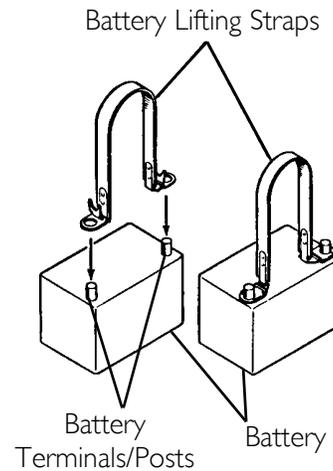
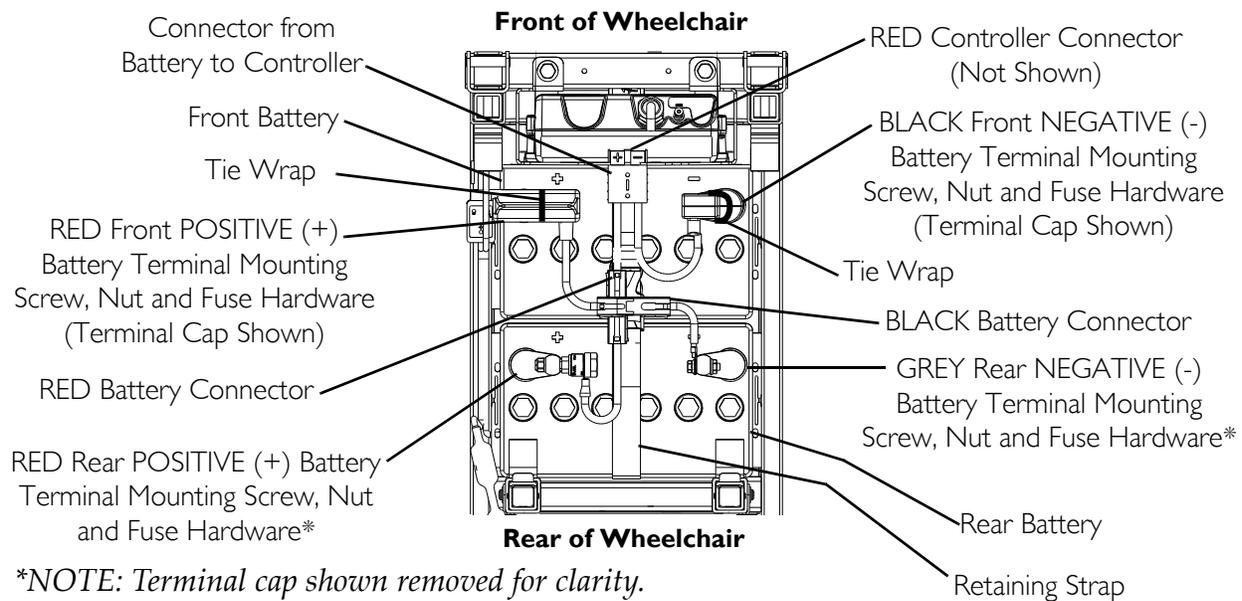

FIGURE 12.1 Installing/Removing the Batteries
FIGURE 12.2 Installing/Removing the Batteries
*NOTE: For this procedure, refer to **FIGURE 12.1** on page 77 and **FIGURE 12.2** on page 78.*
- A. Batteries with Built-In Lifting Strap - Use built in lifting strap to position battery into the battery tray (Detail "A" of **FIGURE 12.1**).
- B. Batteries without Built-In Lifting Strap - Use the battery lifting strap to position battery into the battery tray. When battery is in proper position, remove lifting strap (Detail "B" of **FIGURE 12.1**).
9. Connect the front battery to the controller (RED connector). Refer to FIGURE 12.2.
10. Connect the rear battery to the front battery (RED and BLACK connectors). Refer to FIGURE 12.2.
5. Disconnect the front battery from controller (RED connector). Refer to FIGURE 12.2.
7. Disconnect the rear battery from the front battery (RED and BLACK connectors). Refer to FIGURE 12.2.
- Batteries with Built-In Lifting Strap - Use built in lifting strap to remove the battery from the battery tray (Detail "A" of FIGURE 12.1).
- Batteries without Built-In Lifting Strap - Use the battery lifting strap to remove the battery from the battery tray (Detail "B" of FIGURE 12.1).